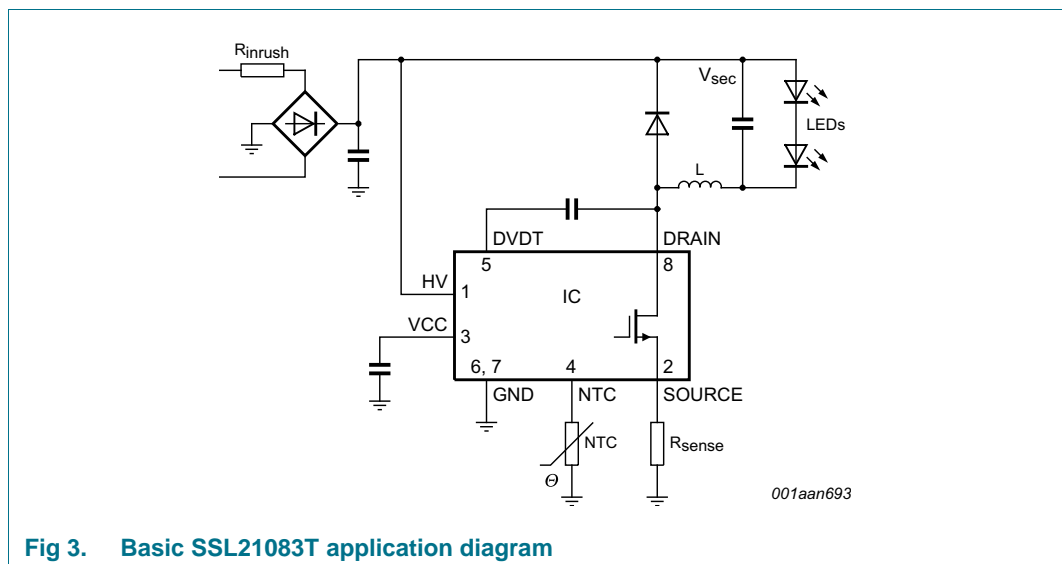
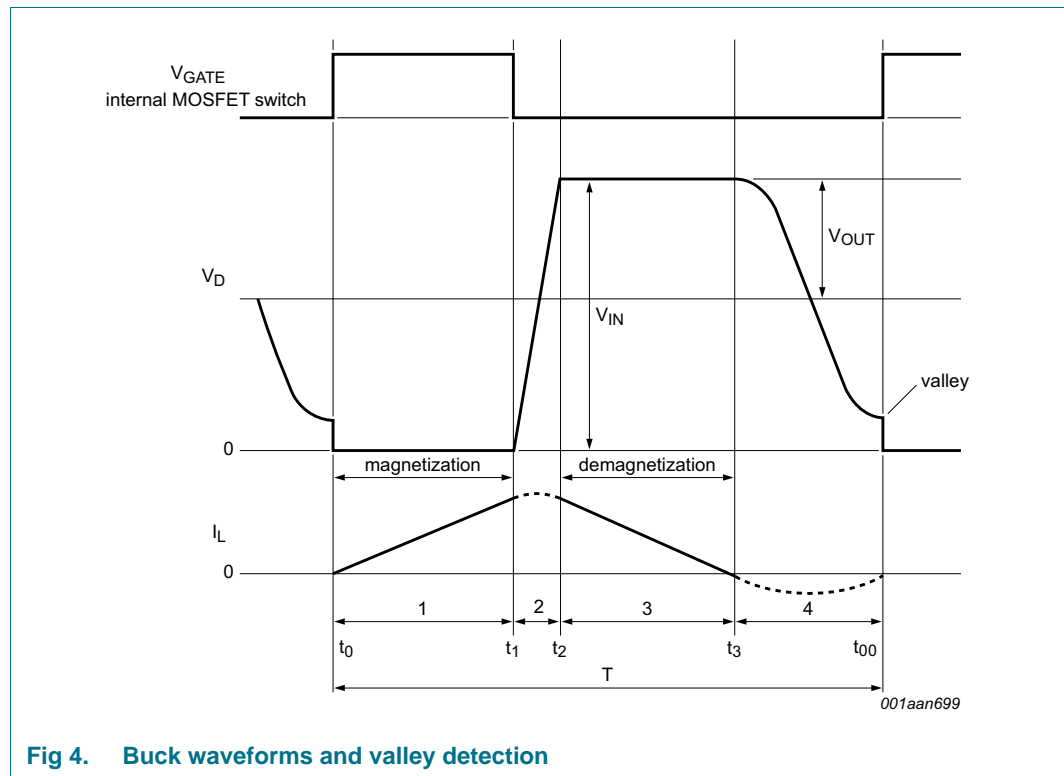

Fig 3. Basic SSL21083T application diagram
Fig 4. Buck waveforms and valley detection
- Low component count LED driver solution (see Figure 3):
The converter in the SSL21083T is a Boundary Conduction Mode (BCM), peak current controlled system. Figure 3 shows the basic application diagram. Figure 4 shows the waveforms. This converter type operates at the boundary between continuous and discontinuous mode. Energy is stored in inductor L each period that the switch is on. The inductor current I_L is zero when the internal MOSFET switch is switched on. Thereafter, the amplitude of the current build-up in L is proportional to $V_{IN} - V_{OUT}$ and the time that the internal MOSFET switch is on. When the internal MOSFET switch is switched off, the current continues to flow through the freewheel diode and the output capacitor. The current then falls at a rate proportional to the value of V_{OUT} . The LED current I_{LED} is almost equal to half the peak switch current. As soon as the inductor current I_L is zero, a new cycle is started.
A new cycle is started when the primary switch is switched on (see Figure 4). Following time t_1 , when the peak current is detected on the SOURCE pin, the switch is turned off and the secondary stroke starts (3). When the secondary stroke is complete and the coil current at t_3 equals zero, the drain voltage starts to oscillate around the $V_{IN} - V_{OUT}$ level. The amplitude equals V_{OUT} . A special feature, called valley detection is an integrated part of the SSL21083T circuitry. Dedicated built-in circuitry connected to the DRAIN pin, senses when the voltage on the drain of the switch has reached its lowest value. The next cycle is then started and as a result the capacitive switching losses are reduced.